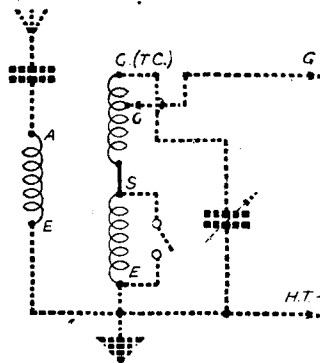
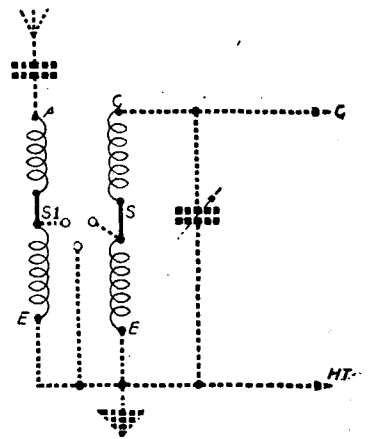
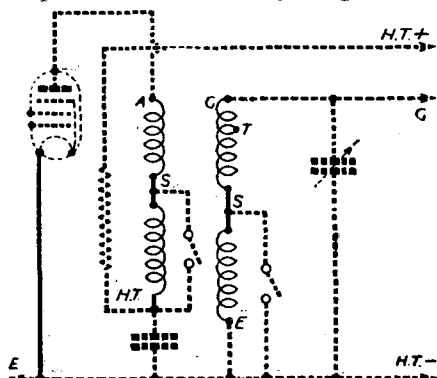

Fig. 3.—A coil with separate aerial winding.
Fig. 4.—Aerial winding and wave-change switch acting on both windings.
Fig. 5.—Connections for a typical H.F. transformer.
In the case of a coil of the type represented by Fig. 3 there will probably be three windings, although the reaction winding has been omitted for simplicity. The separate aerial winding can be treated in the same manner as the reaction winding by trying the effect of reversing the aerial and earth connections. It is not essential to use the grid-winding tapping (if provided), but by connecting it to the grid (but leaving the tuning condenser connected to the top end of the winding) tuning will be sharpened.
Fig. 4 shows a coil similar in style to that in Fig. 3, but in this case a three-point wave-change switch is used to short-circuit a portion of both the aerial and grid windings when working on the medium waveband. There would probably be a reaction winding in addition to the two windings shown, but that could be considered separately.
The coil shown in Fig. 5 is again similar; in fact, it may be the same coil as that in Fig. 4, but this time it is shown used as an
H.F. transformer. Because of that, and since the primary winding (which corresponds to the separate aerial winding) carries H.T. current to the preceding H.F. valve, a double-pole switch replaces the three-point switch shown in Fig. 4. Here again, there would generally be a reaction winding, and there might also be a tapping on the grid winding to give increased selectivity.
In many cases when there are three windings, the lower ends of all three are joined together and to the earth terminal, as shown in Fig. 4. This is inclined to make the identification of the three windings more difficult. Since the aerial and reaction windings may be similar it might be possible to interchange the connections, and for that reason it would be wise to try reversing the leads to the points marked A and R.C. in order to find which is better; this should be done while the coil is wired in a set. The idea of using a flash-lamp bulb and small dry battery mentioned in the article on mains transformers will usually serve to show which is the grid or tuning winding, since this will have the highest resistance—when the wave-change switch is "open"—and will therefore cause the bulb to give a dull glow, or even to go out.